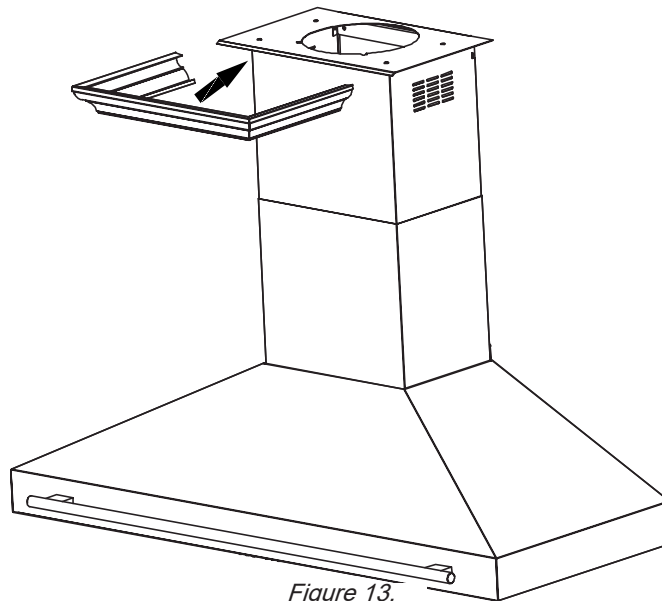

Figure 13.
17. Slide the decorative frame/crown onto the chimney mounting bracket and secure it in position. Figure 13.